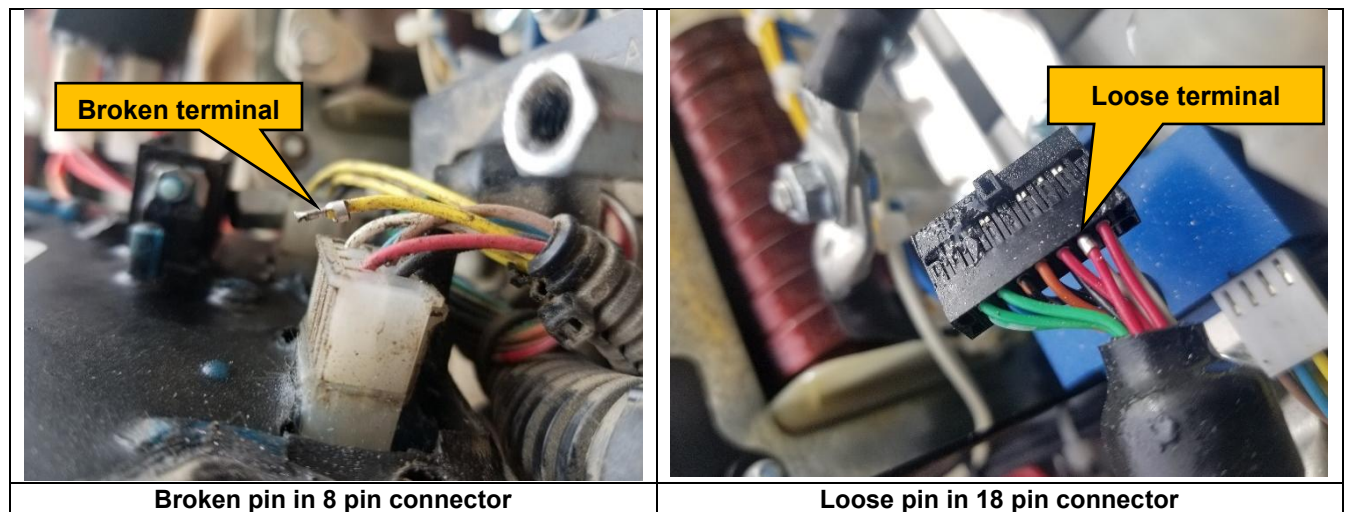

Figure 9
- ☐ Inspect the connectors for broken or loose terminals (Figure 9).
- ☐ Give each wire a gentle tug and see if any pull out of the connector (Figure 9)